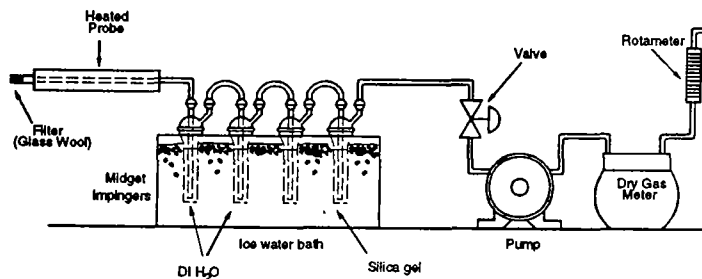

Figure F4-1. Moisture sampling train.
1. Set up the sampling train as shown in Figure F4-1.